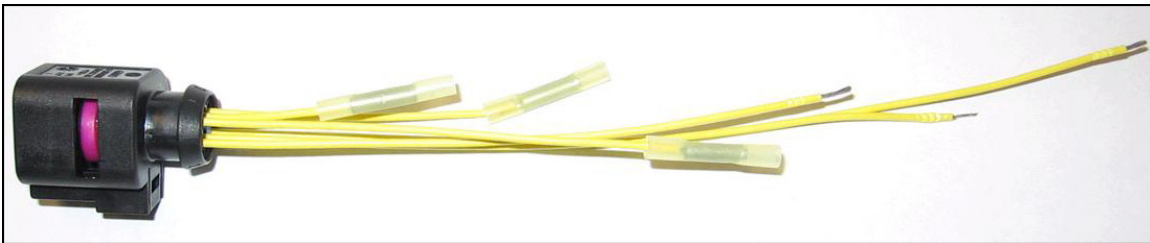

Figure 4. Crimp connectors installed on wire ends
- Strip wires 6-7mm using tool VAS 1978/3. Install crimp connectors using crimping pliers (base tool) -VAS 1978/1-2 with head VAS 1978/1-1 (Figure 4).